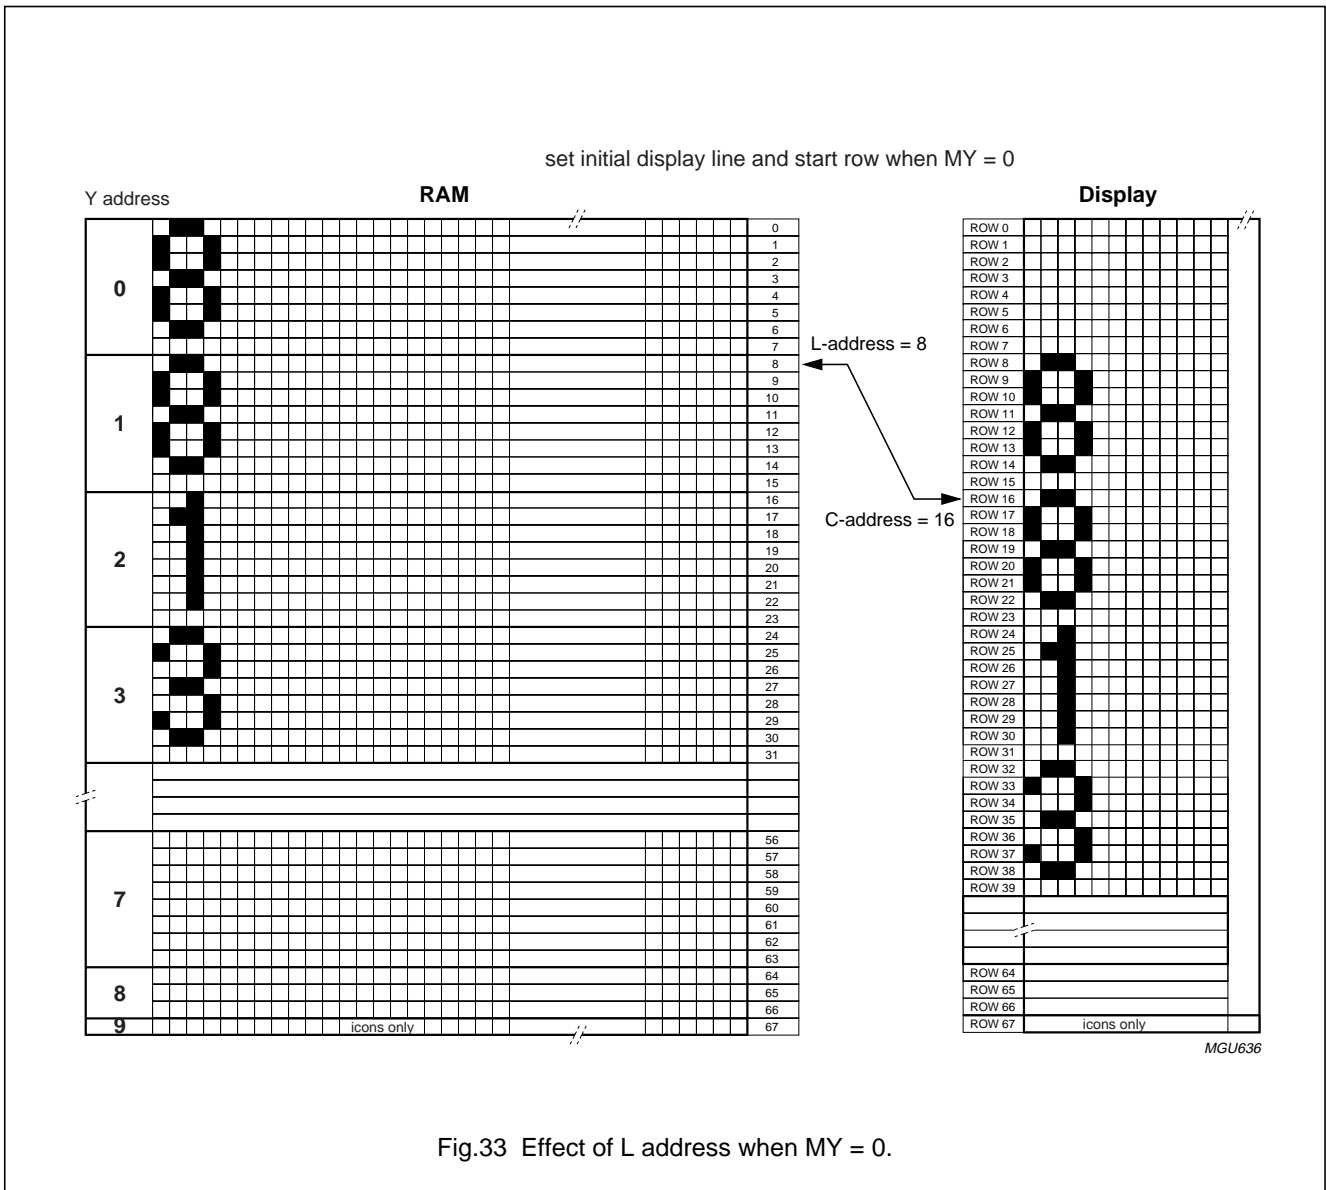
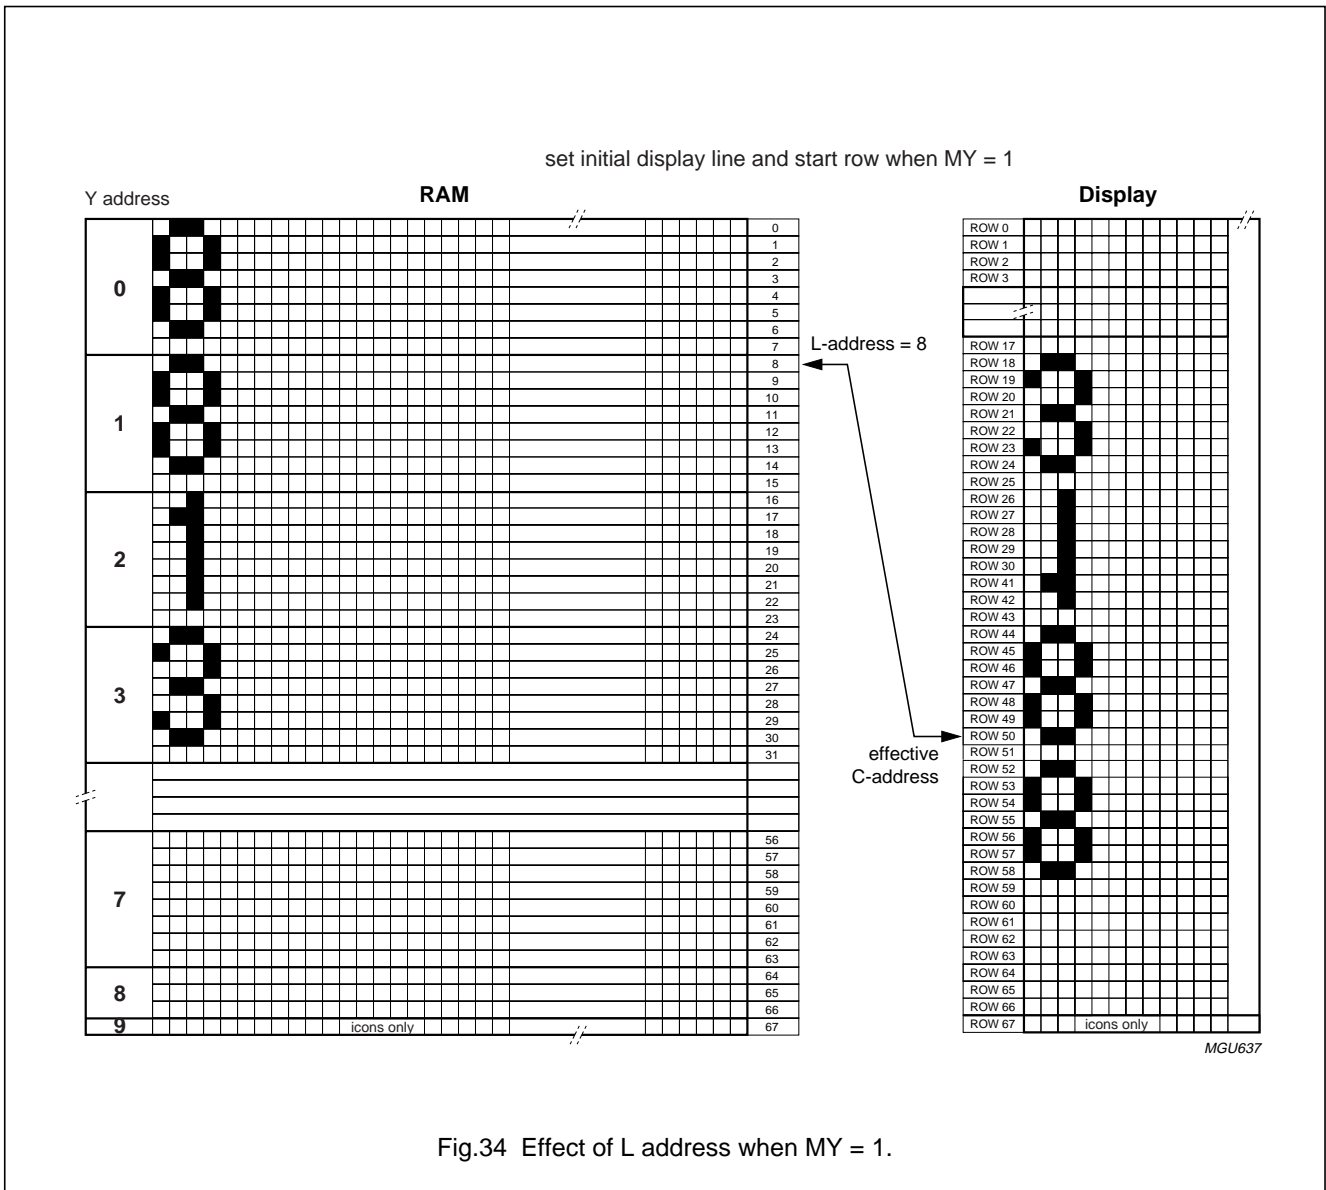

Fig.33 Effect of L address when MY = 0.
Fig.34 Effect of L address when MY = 1.
Figure 33 shows an example of how RAM data is mapped onto the display. In this example, the L command sets the data on line 8 of the RAM to be displayed. This data is displayed on a row set by the C command (16). When L and C are set to 8 and 16 respectively, data from RAM lines 4 to 7 is displayed on display rows 12 to 15 and RAM data from lines 15 to 18 is displayed on display lines 23 to 26.
When MY is active (MY = 1), the data from Fig.33 is mapped from the RAM to the display as shown in Fig.34. Note the 'new' location of C after MY.